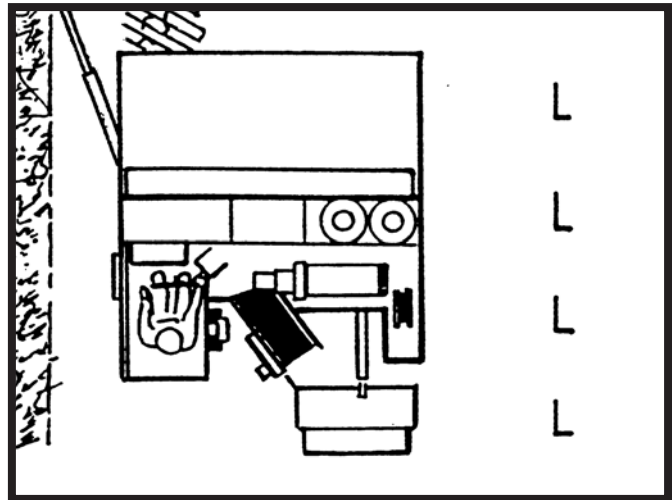

Figure 7
1. Align the Maintainer to the repair site in as straight a line as possible. This should eliminate excessive alignment changes. It requires about 10 feet to correct the grinding path. See figure 7.